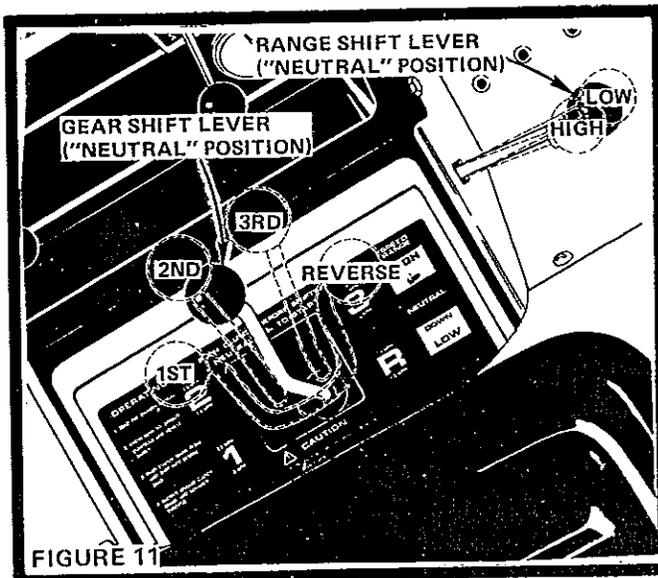

FIGURE 11
3. Place Gear Shift Lever in "NEUTRAL", start position (Fig. 11).
3. Move Gear Shift Lever to "2ND" and Range Shift Lever to "LOW" (Fig. 11).
For pushing or towing your tractor, place Gear Shift Lever and Range Shift Lever in neutral position (Fig. 11). NOTE: DO NOT TOW YOUR TRACTOR FASTER THAN SIX MILES PER HOUR.